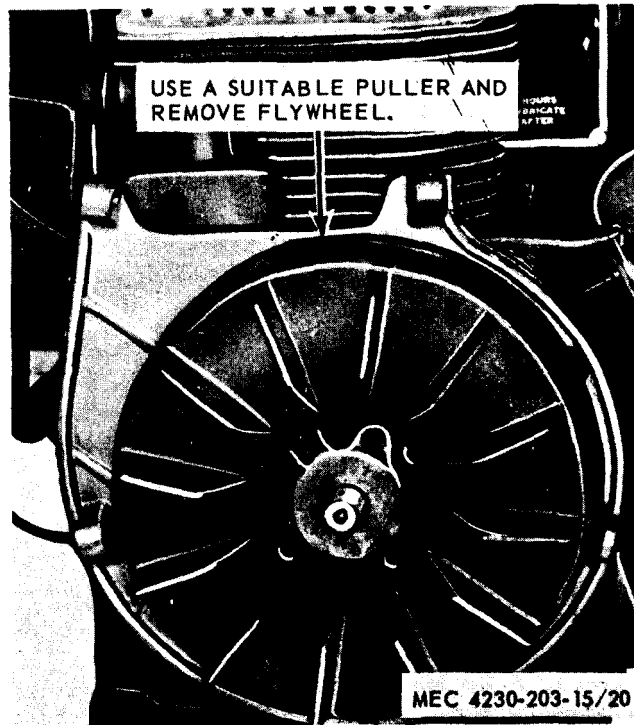

Figure 4-15. Flywheel removal and installation.
- (1) Remove the rope starting pulley (para 4-17).
- (2) Remove the flywheel housing and baffles (para 4-11).
- (3) Refer to figure 4-15 and remove the flywheel.